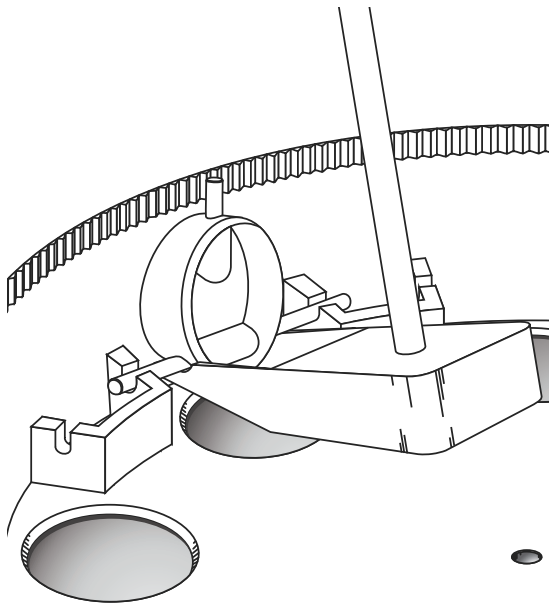

Figure 18
3. With the extractor tool, remove each T-valve assembly from the valve base. Raise the T-valve assembly in a vertical position and insert the extractor tool under the valve. Pry the assembly out of the pin seats by pulling the extractor tool rearward (Figure 18).